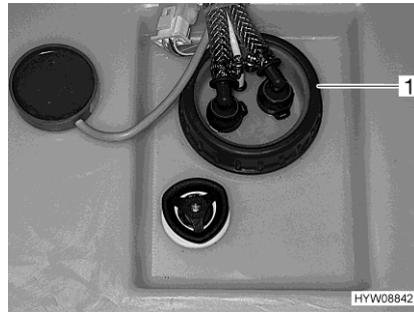

Fig. 153 Cleaning opening (water tank)
- Remove the cap (Fig. 153,1) of the water tank.